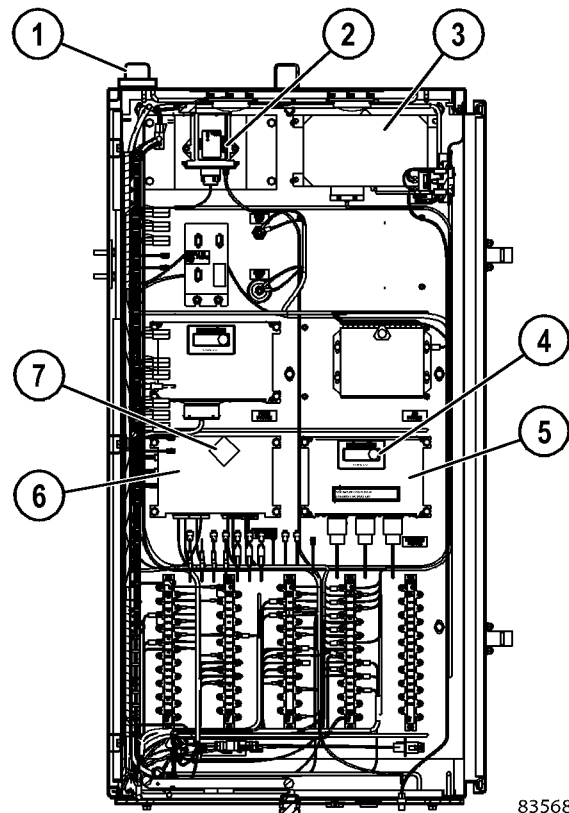
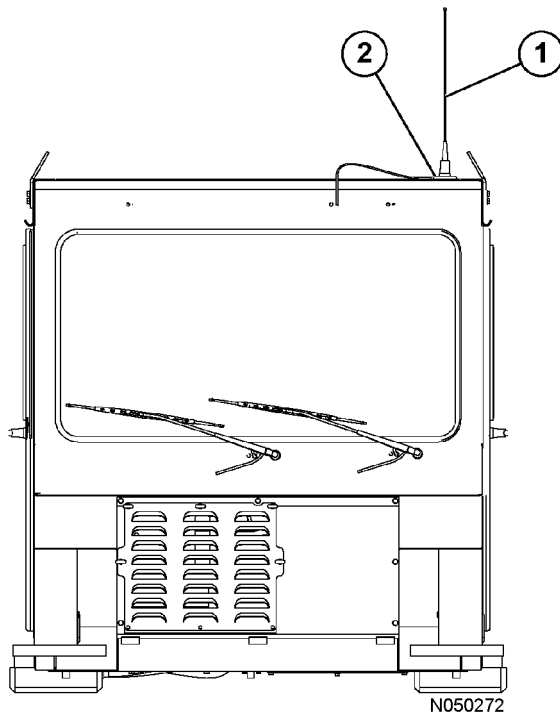

FIGURE 32-12. KOMTRAX PLUS COMPONENT
FIGURE 32-13. ORBCOMM ANTENNA
This system uses KOMTRAX Plus controller (formerly known as VHMS) (6, Figure 32-12) to gather data about the operation of the truck from sensors and other controllers installed on the truck. The data stored in KOMTRAX Plus is collected by a laptop personal computer (PC) or transmitted directly by communications satellite (utilizing the ORBCOMM controller). This data is then compiled at the Komatsu computer server. Based on this information, the servicing Komatsu distributor will suggest improvements and provide information aimed at reducing machine repair costs and downtime.
The KOMTRAX Plus system is turned on by the truck key switch. Immediately after receiving 24V power from the key switch, the KOMTRAX Plus controller begins the power-up initialization sequence. This sequence takes about three seconds, during which time red LED digits (7, Figure 32-12) display a circular sequence of flashing LED segments.
ORBCOMM controller (3, Figure 32-12) transmits data through antenna (1, Figure 32-13) mounted on top of the cab. The antenna coaxial cable is routed through the inside of the cab to protect it from damage. If the antenna or coaxial cable is damaged, replace the parts.
Interface module (3, Figure 32-12) receives data from the sensors installed on the truck and sends this information to the KOMTRAX Plus controller. There is a small green LED light on the face of the controller. With the key switch ON, the light must be blinking. If the light is continuously illuminated, there is a problem in the controller.
The Komatsu wireless bridge (2, Figure 32-12) allows for the transfer of information from the KOMTRAX Plus controller to a laptop computer with wireless network capabilities. The information that is downloaded through the KWB (Komatsu wireless bridge) is the same information that is gathered during a manual download from the KOMTRAX Plus system. Downloads can be performed with the laptop computer located on or near a stationary truck, or the computer can be located close to a path of moving trucks. Total download time is approximately 10 seconds. If only a portion of the data is downloaded while the truck is passing by a laptop computer, the remaining information will be downloaded the next time a data download occurs.